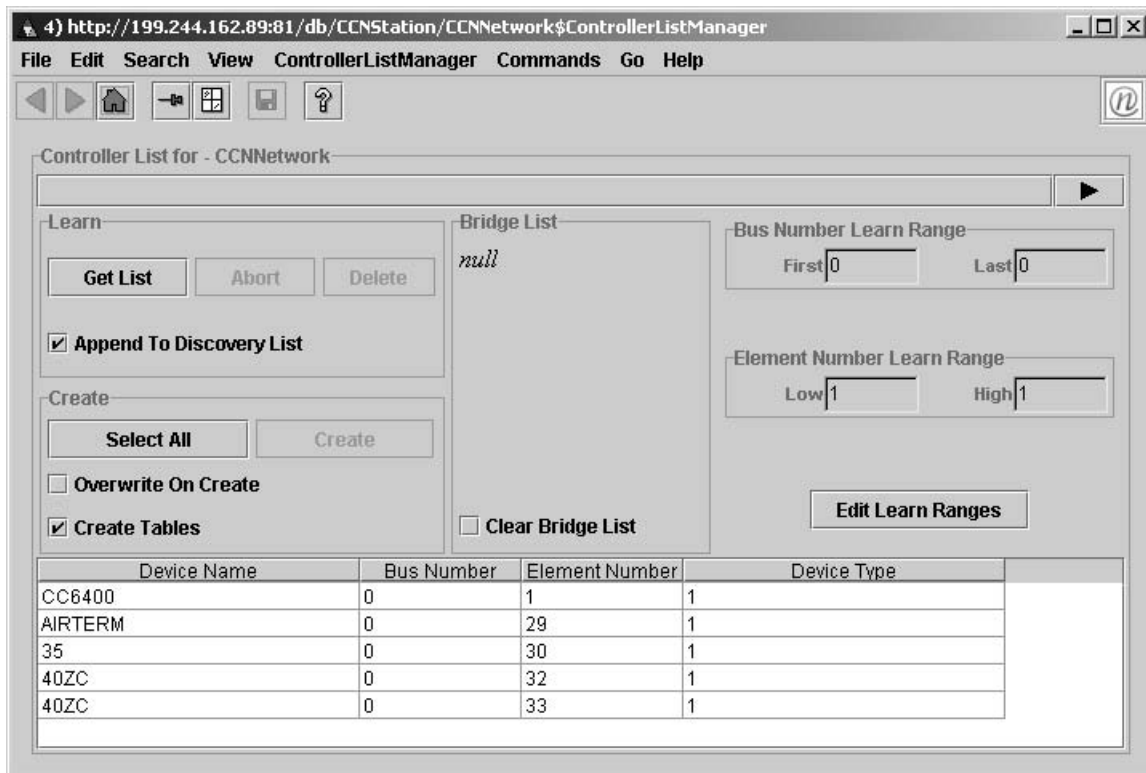

Fig. 12 — Controller List Manager
**CONTROLLER LIST MANAGER** — In order to learn the CCN controllers that are connected to the network you must right click on the CCNNetwork container and select ControllerListManager from the menu that appears. Once selected, the Controller List for the CCNNetwork container will open. See Fig. 12.